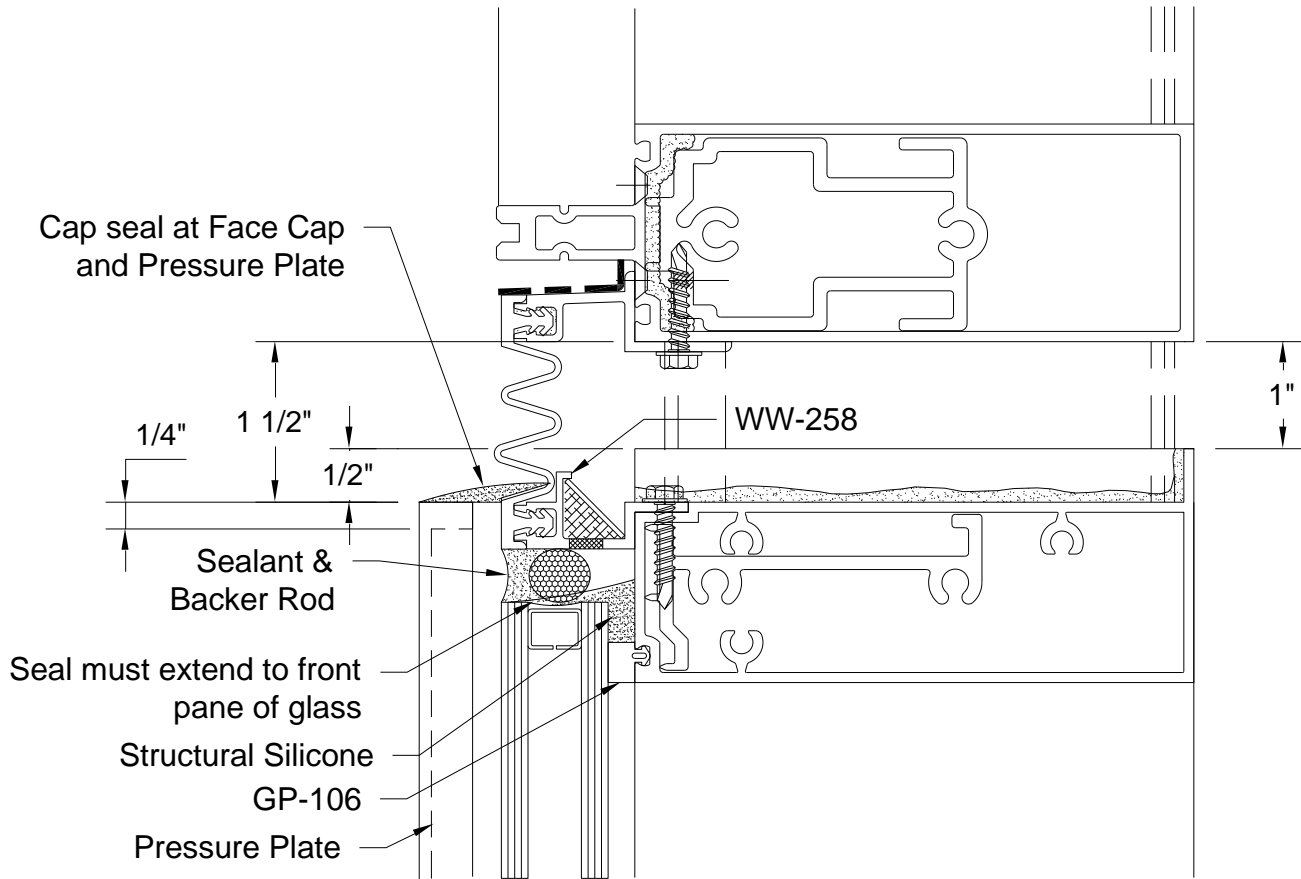

Figure 28: Structural Seal at Lower Units
12.14 Structural Silicone seal is required at top of glass of lower units. This seal must extend forward to cover top of glass. Insert backer rod and seal face of glass to lower side of WW-258 gasket retainer. See *Figure 28*. Do not obstruct weep hole in WW-258 gasket retainer.